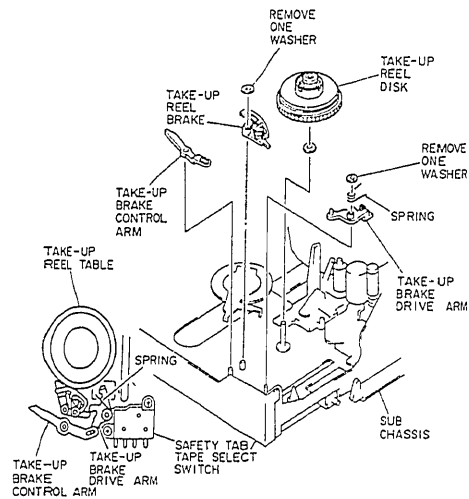

Fig. 2-44
- 1) Pull out the take-up brake control arm from the sub chassis. (See Fig. 2-44)
- 3) Remove one (1) washer and pull out the take-up brake drive arm from the sub chassis.
- 4) Remove one (1) washer and pull out the take-up reel brake from the sub chassis.